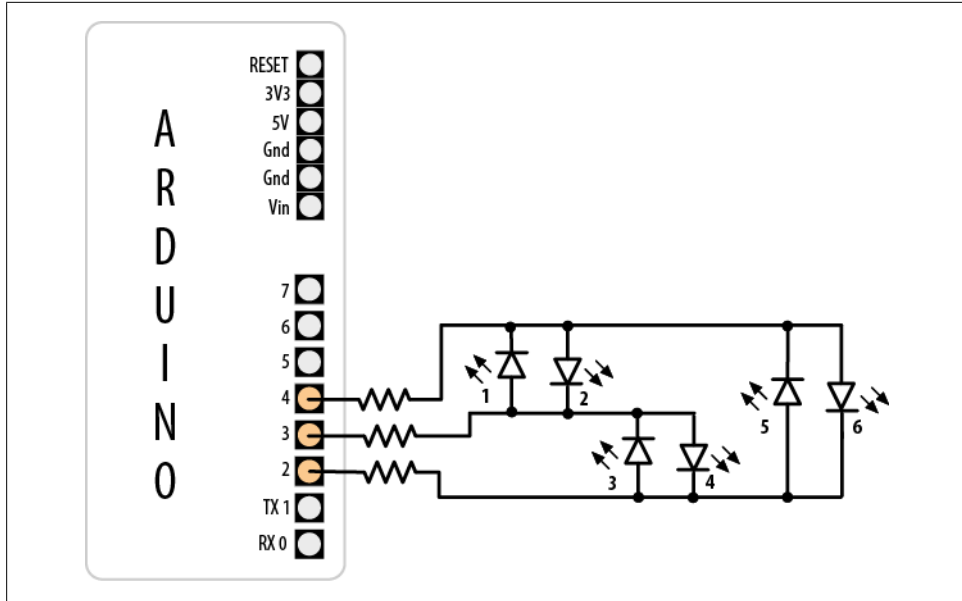

Figure 7-8. Six LEDs driven through three pins using Charlieplexing
*Charlieplexing* is a special kind of multiplexing that increases the number of LEDs that can be driven by a group of pins. This sketch sequences through six LEDs using just three pins (Figure 7-8 shows the connections):